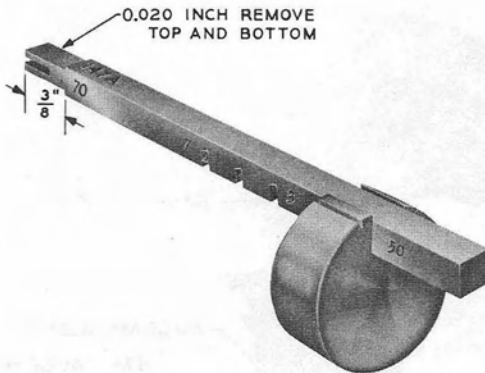
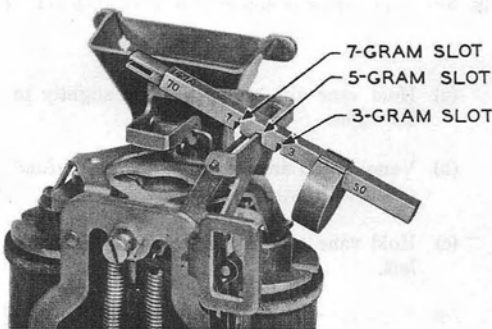

Fig. 57—147A Gauge
Fig. 58—Gauge for Ground Contact Spring Force
- (1) With ground lead connected to coin collector, place required gram slot of 147A gauge (Fig. 57) on horizontal portion of switch lever (Fig. 58).
- (2) Connect hand test set across line terminals of coin collector, and trip coin trigger. Dial
(3) Ground contact-spring force for P-145749 (2-spring) relays should be a minimum of 5 grams measured with the 147A gauge as shown in Fig. 58.
(4) Ground contact-spring force for D-96590 (3-spring) relays should be a minimum of 3 grams measured with 147A gauge 3-gram slot. Contact requirements are as follows: